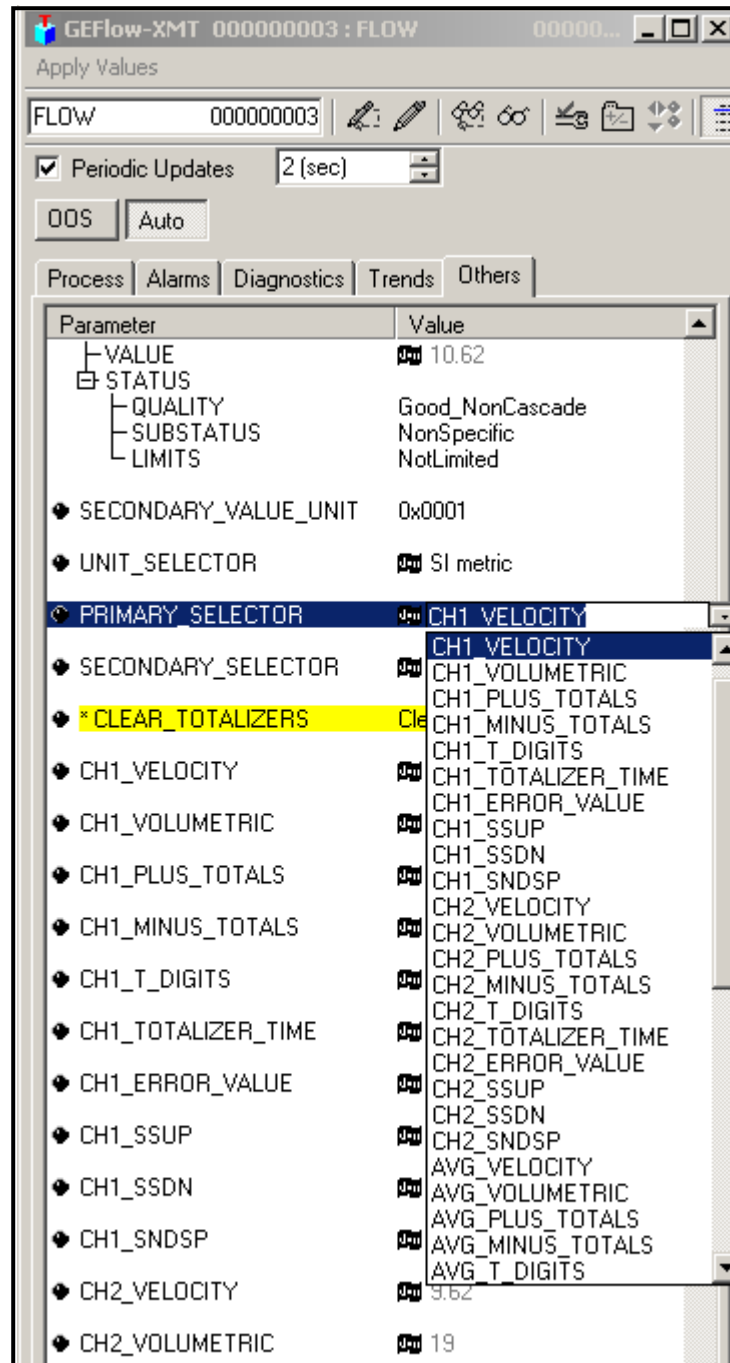

Figure 41: Primary Selector Drop Down List
2. Select the **Others** tab and open the drop down list for the **PRIMARY_SELECTOR** and **SECONDARY_SELECTOR** (see Figure 41 on page 111).
3. Choose the unit from the list (see Figure 41 on page 111).